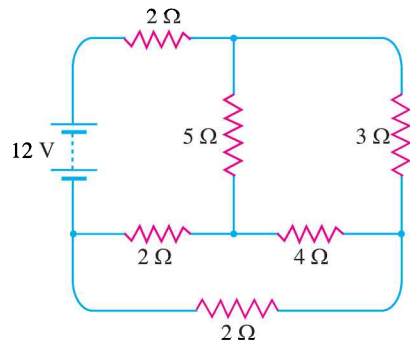

Fig. 1.53
- Using Thevenin's theorem, find the current through 4 Ω resistor in the circuit of Fig. 1.53. [0.305A]